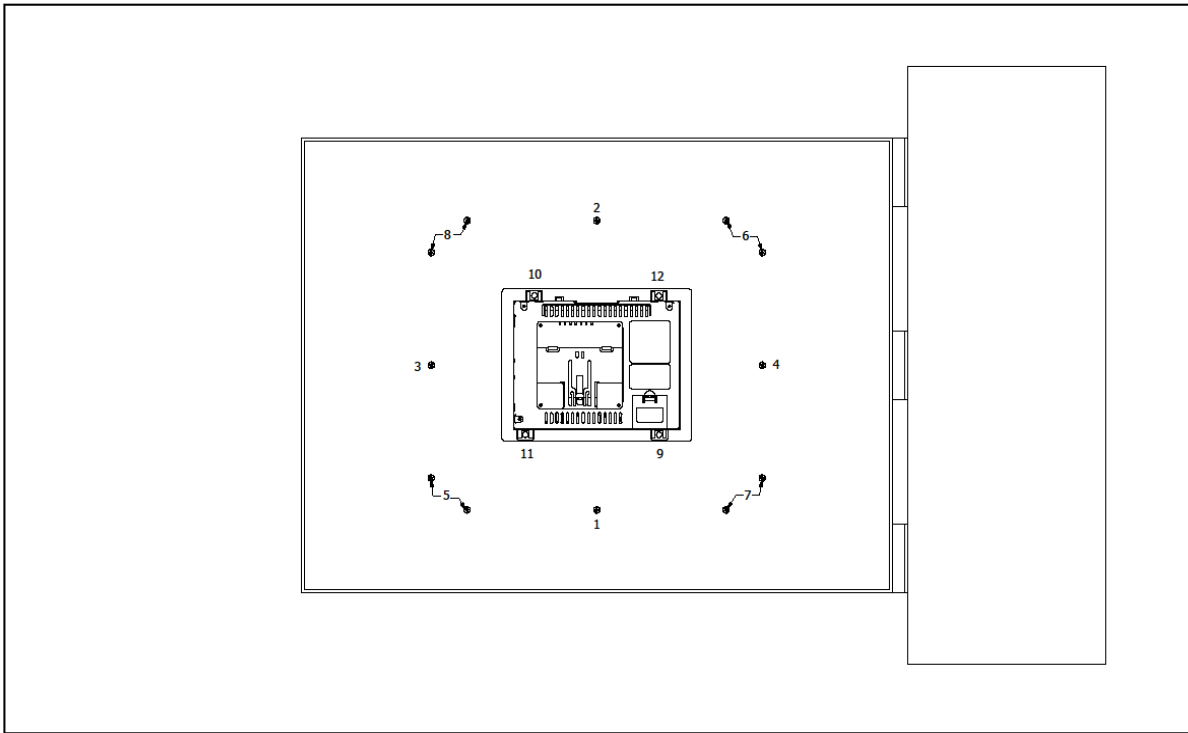

Figure 3.2–Perimeter Set Studs
2. If the system does not experience shock or vibration and will not be exposed to weather or wash down conditions, the unit can be installed by cutting the rectangular opening and installing the four (4) supplied clips.
8. The two (2) spring clips will latch the unit in the panel.
9. Insert each of the four (4) mounting clips into the slots in the XL15+ OCS case. One clip should be installed on each corner. Lightly tighten each screw so the clip is held in place.
11. If the perimeter studs are needed, it is recommended to use a thread locker (similar to 242 Blue Loctite). Use supplied lock washers and nut. Recommended torque is 3-4 in-lbs (0.34-0.45 Nm). Refer to Figure 3.2 (below) for the proper torque sequence.